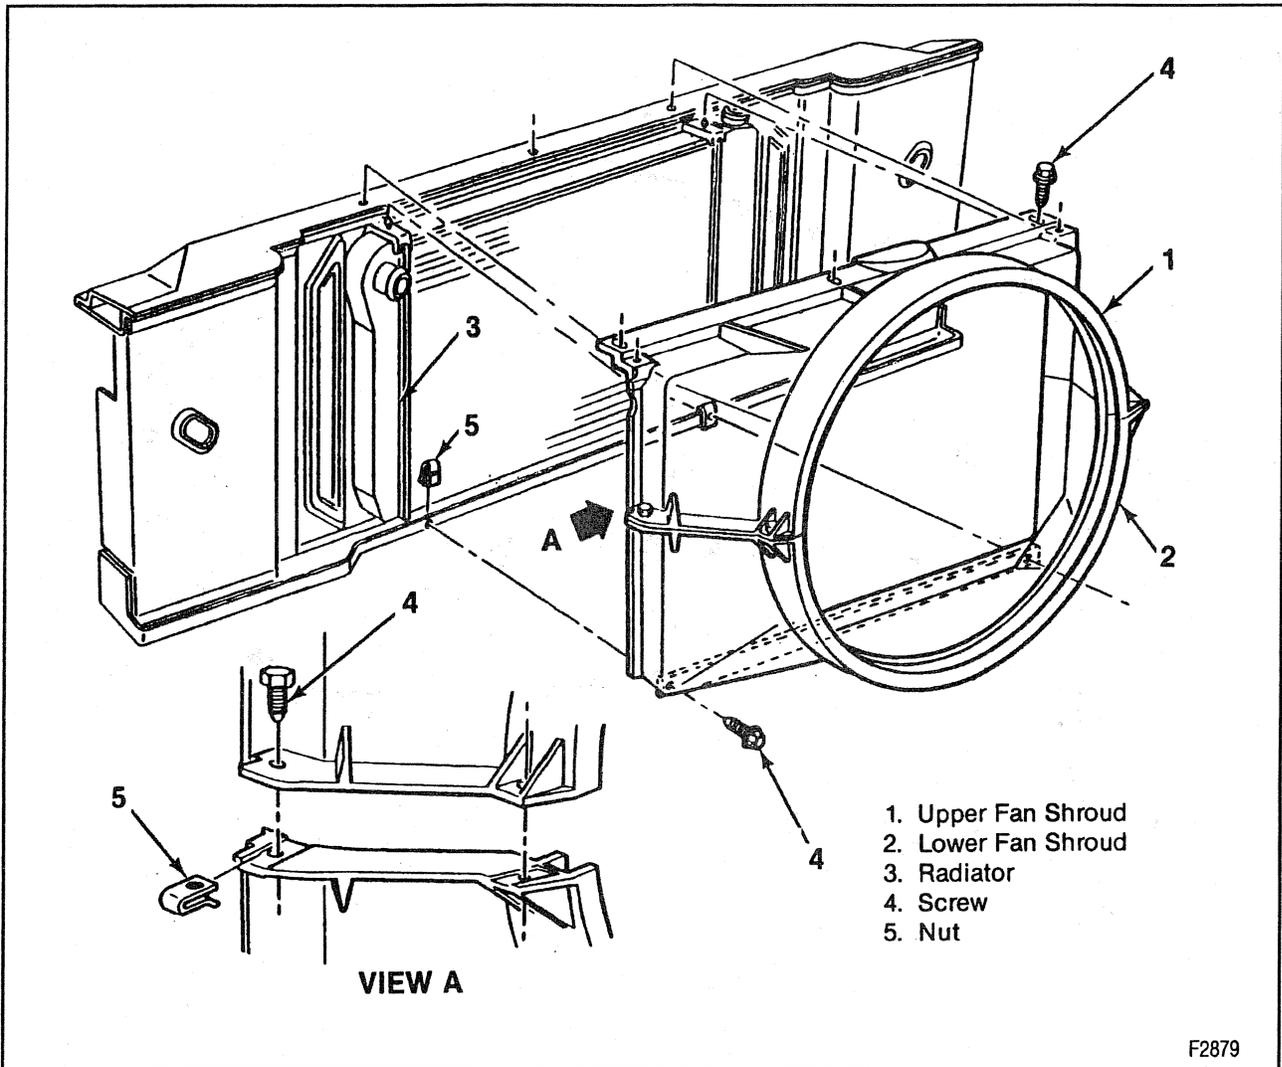

Figure 6—Fan Shroud and Components (4.3L, 5.0L and 5.7L Engines)
↔ Remove or Disconnect (Figures 6 through 8)
**Install or Connect (Figures 6 through 8)**
- Bolts (4) to 9 N.m (71 lbs. in.).
**Remove or Disconnect (Figures 6 through 8)**
Install or Connect (Figures 6 through 8)